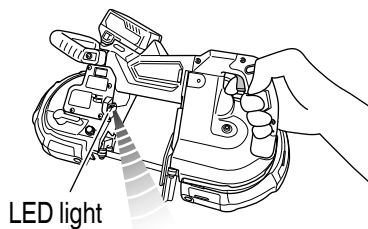

Fig. 20
2. LED light warning signals (**Fig. 20**)